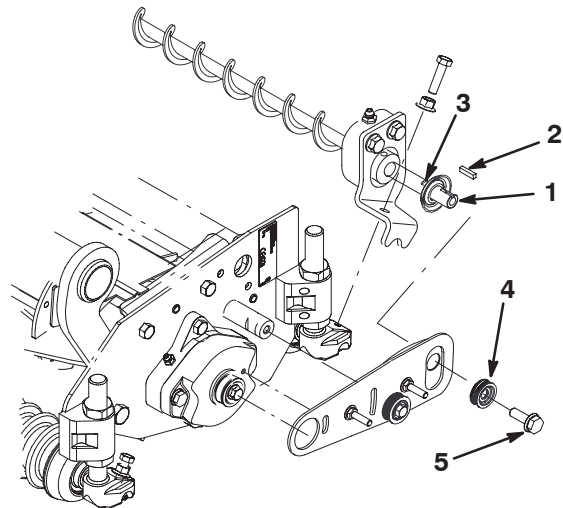

Figure 12
21. Insert square key into key way on roller brush shaft (Fig. 12).
22. Slide pulley onto key and end of roller brush shaft (Fig. 12).
23. Apply 242–Loctite (blue) to threads of 5/16–18 x 5/8" lg. flange bolt. Secure pulley to shaft with bolt and torque to 15 to 19 ft.-lbs. (1/2" wrench) (Fig. 12).